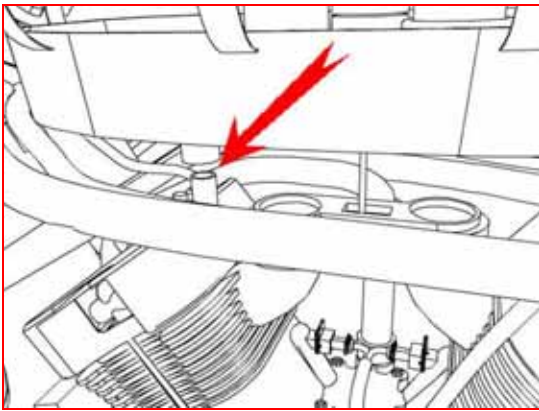

Fig 6
7. Disengage the front crankcase breather hose and remove the air box floor. There is no clamp on this hose. (See figure 6)